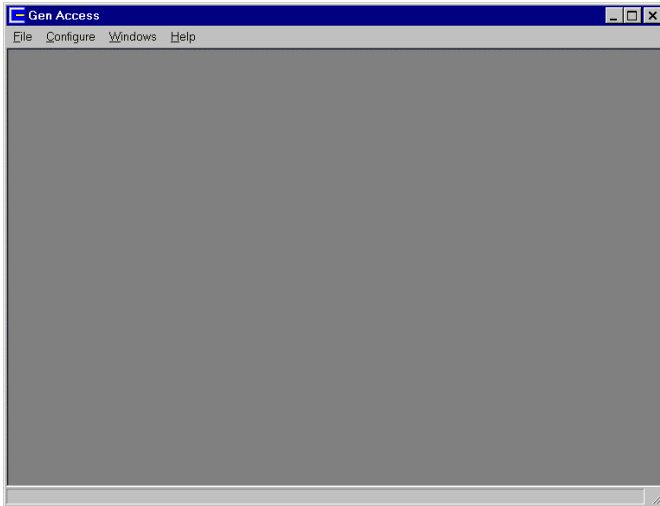

Figure 4.1 The main frame window of GenAccess1.0.
Step 1. Launch GenAccess: To begin this tutorial, launch GenAccess by clicking the GenAccess icon, which is located in the Start\Programs menu. When you launch GenAccess, it appears on screen with its main frame window and status bar, as shown in Figure 4.1. There are four menus on the window namely File, Configure, Windows, and Help